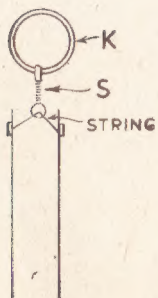

Fig. 7
Another method of suspension is shown in Fig. 7. (K) is a suitably sized